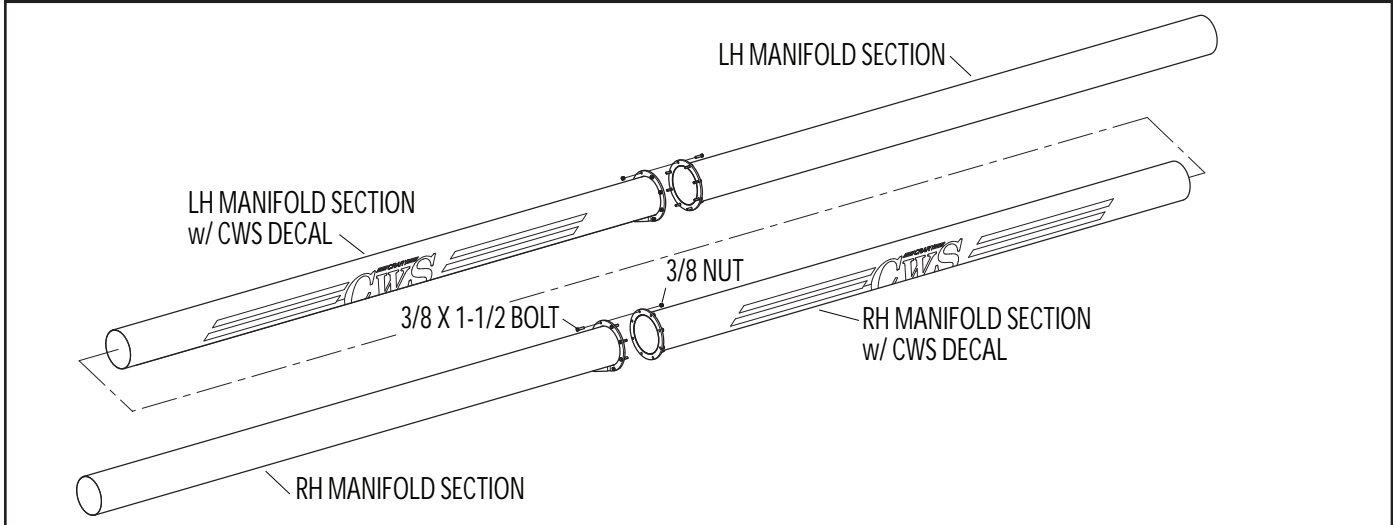

Figure 44: 45FT Manifold assembly (FD70 & CIH 2162 headers)
1. For 40FT sectional manifolds no assembly required at this stage. For 45FT manifolds, bolt the two LH manifold ends together using eight 3/8" x 1-1/2" bolts and nuts. Bolt the two RH manifold ends together using eight 3/8" x 1-1/2" bolts and nuts. Make sure the air holes of all sections are pointing the same direction and torque hardware to 30 ft-lbs. Refer to page 31, Figure 44.